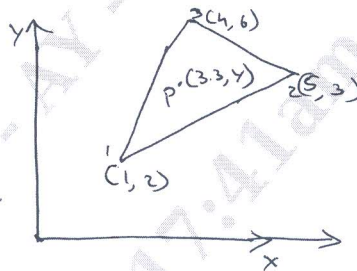

Fig.Q5(b)
- b. The nodal co-ordinates of a triangular element are shown in Fig.Q5(b). The X-coordinate of point P is 3.3 and shape function $N_1 = 0.3$. Determine N_2 , N_3 and Y – coordinate of point P.